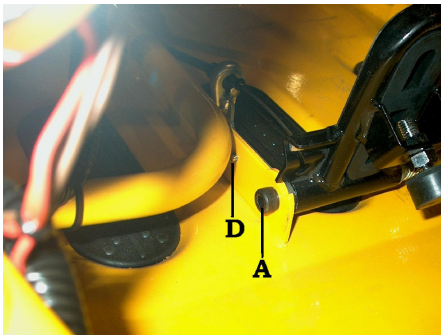

Fig. 5-1
This Mini Rover has been made with foot pedals that can be moved depending on the size of your child. First remove the bolts (A) and (D) (Figure 5-1 and 5-2). Once you have done this, you are able to move the cable holder and the pedal rod with the pedals together. There is only one bolt that holds the pedal rod in place. On the brake pedal side there is a slot for the pedal rod to fit into, once you have picked out the holes for the new setting, just slide the pedal rod and cable holder together and fasten all bolts and nuts. Remember not to take pedals off the rod. By doing so the spring may come loose. Make sure after you have done the adjustments, the pedals are working and will return to their original position.